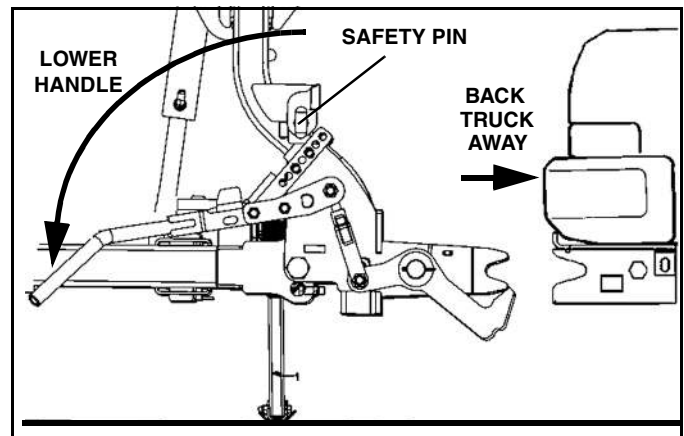

Figure 1-42
7. Pull safety pin on engagement handle to release and lower handle to disengage plow from truck. (See Figure 1-42).
8. Back truck away from plow. (See Figure 1-42).